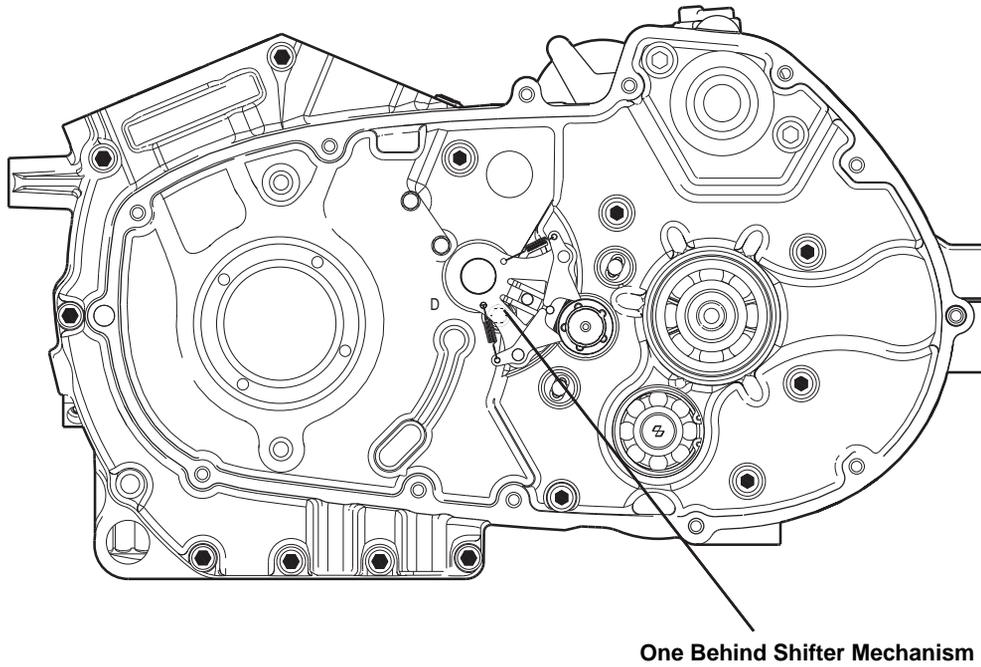

Figure 6-84. Installing Shift Fork Shafts
3. See Figure 6-84. Place the 3rd and 5th gear shifter fork on the appropriate mainshaft sliding gear and install the shifter fork shaft through the two installed shifter forks and into the left case half.
See Figure 6-84. Install shifter fork shafts in the left case half by lightly tapping on the end with a brass hammer until seated in bore.